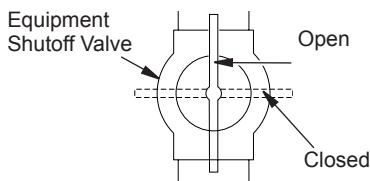

Figure 33 - Equipment Shutoff Valve
1. Close equipment shutoff valve (see Figure 33).
1. Open equipment shutoff valve (see Figure 33, page 22).